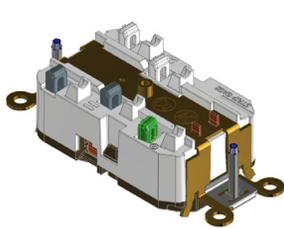

Fig. 3
- In Fig. 3, the plungers are in the “down” position. Wires cannot be inserted while plungers are down.